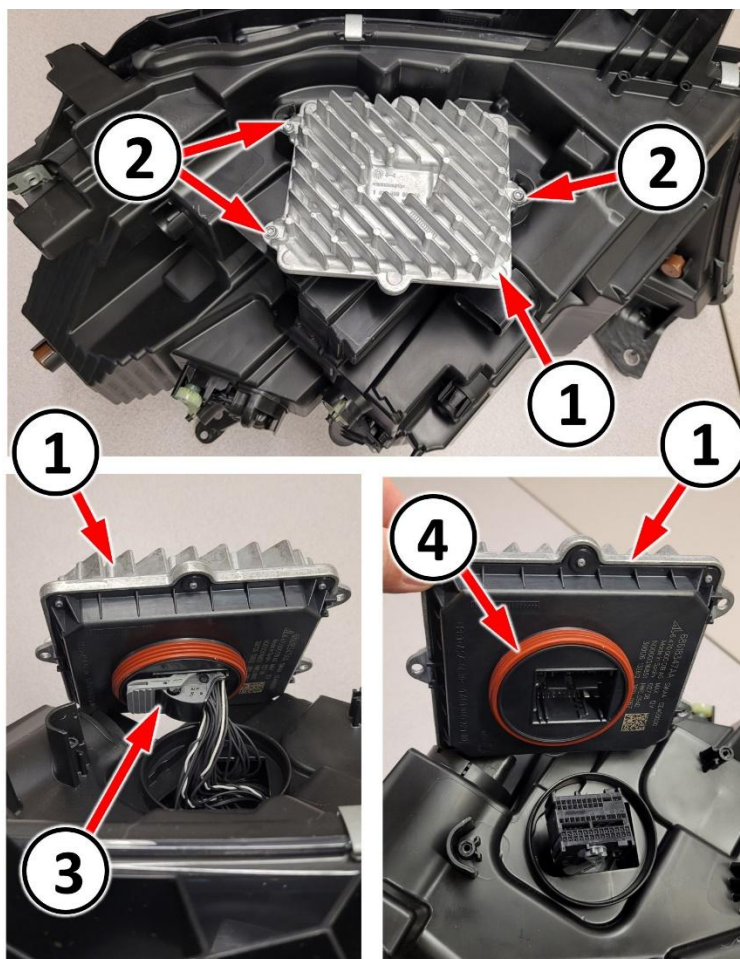

Figure B19 – Headlamp Module
31. Transfer the module to the **NEW** headlamp assembly (Figure B19).
- a. Remove the three screws and release the module from the lamp (Figure B19).
- b. Rotate the electrical connector lock to remove the electrical connector (Figure B19).
- d. Connect the electrical connector rotating the connector lock into the locked position (Figure B19).
- e. Install the module to the lamp making sure the seal is seated properly not pinched or rolled over (Figure B19).
- f. Install the three screws and tighten securely (Figure B19).